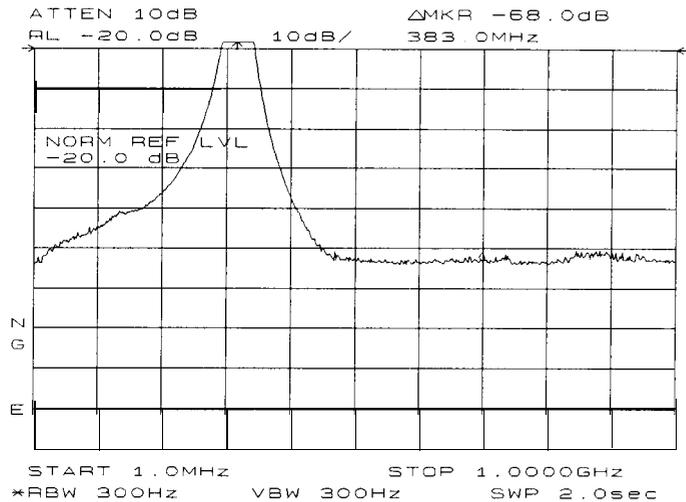

Figure 2-39.
**NORM REF LVL** , like **NORM REF POSN** , is a trace math function that lets you change the position of the normalized trace within the range of the graticule, without changing spectrum analyzer settings. See Figure 2-39. As a result, your measurement remains calibrated. However, using these two trace math functions may mean that the top of the screen does not represent the gain-compression limit.